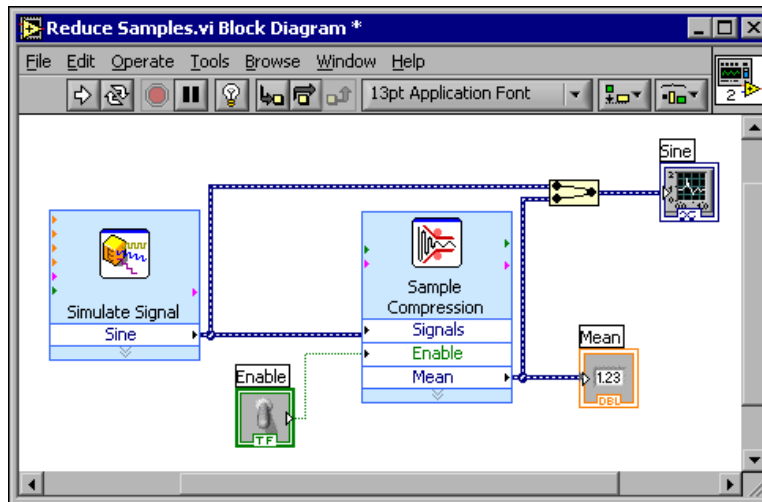

Figure 1.29
In a previous exercise (Section 1.5), you added controls and indicators to the front panel using the Controls palette. You also can add controls and indicators from the block diagram. Complete the following steps to create controls and indicators as shown in Figure 1.29.
6. Arrange the objects on the block diagram so that they appear similar to Figure 1.29.